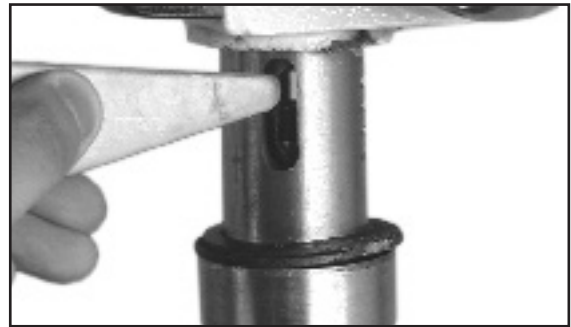

Figure 15
5. Insert the Key-drift into the slot. (Fig. 15).